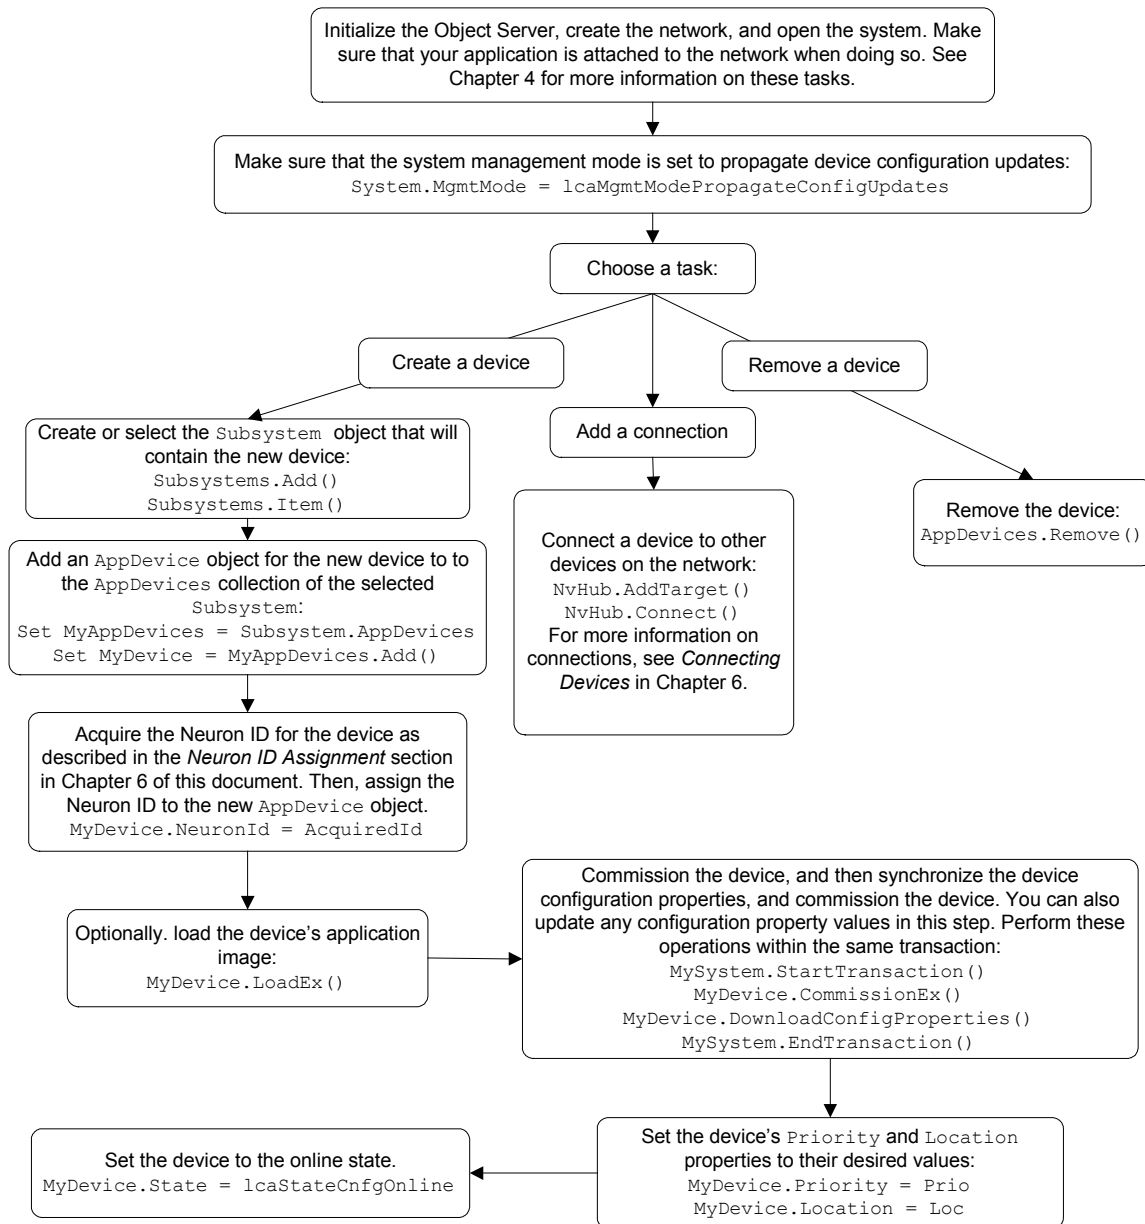

Figure 5.4 Ad Hoc Installation Tasks
In the ad hoc installation scenario, the LNS application loads the network configuration information into the physical devices on the network as the installer defines devices and connections in the LNS database. The LNS application can provide a user interface that controls the amount of information and sequencing of the information required, or it could automate as much of the installation process as desired. The basic tasks you will need to perform during an ad hoc installation are shown in figure 5.4. These are described in more detail in the following sections.
The following section describes the tasks depicted in figure 5.4 in more detail. Note that if your network uses multiple channels, you will need to define the network's channels and install and configure the network's routers as you define your devices. For more information on this, and on other considerations you will need to make when managing a network with multiple channels, see *Managing Networks with Multiple Channels* on page 169.
9. Figure 5.4 references additional tasks you may need to perform when managing the network you create with the ad hoc installation scenario, such as removing devices, creating connections, and replacing devices. For details on how to perform these tasks, see *Other Device Management Operations* on page 129.